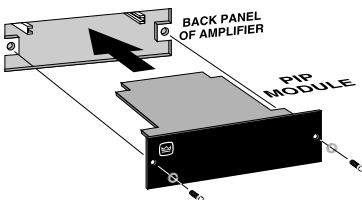

Fig. 3.13 Installation into a Standard PIP Amplifier
3. *Standard P.I.P. Amplifiers:* Align the edges of the P.I.P.–AMCb in the PIP card rails and firmly push the unit in until it is seated against the mounting bracket (see Figure 3.13).